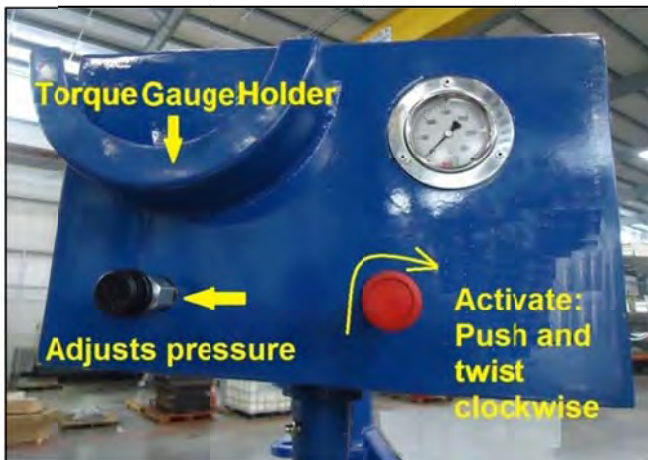

Figure 3
4. Place torque gauge in control box's holder. See Figure 3